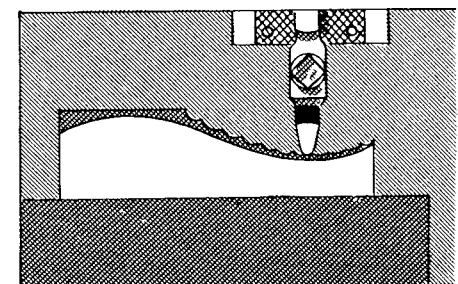

FIG. 510
14. Cut a curved surface by moving the work to the right with the front hand-feed control, and, at the same time, move the tool down for each stroke that the tool makes. When the tool reaches the point where the curve inclines upwards, it must be raised slightly for each stroke of the tool (Fig. 510).